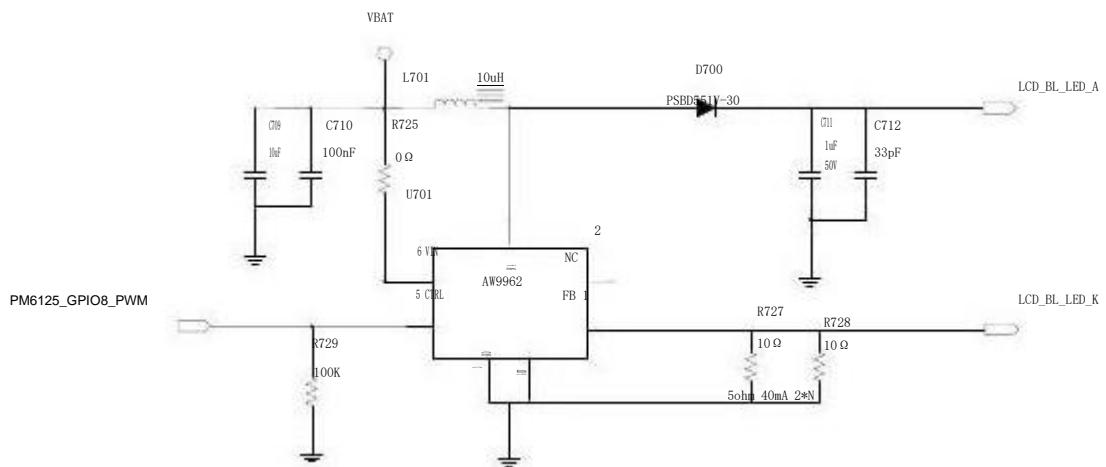

Figure 4.16 : External backlight circuit diagram
SLM920 module does not support backlight driver output, customers need to use external backlight driver. The backlight drive circuit can refer to Figure 4.16. The backlight brightness can be adjusted through PM6125\_GPIO8\_PWM (112) of the module , and the modulation mode is PWM mode.